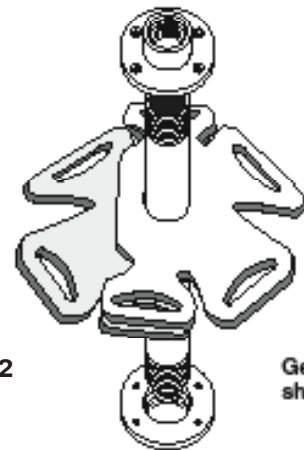

Figure 2
3. Where applicable, overlap center pole plates and install the steel pipe and flange assembly. This holds the center pole plates together. Make sure to place the grommet side ON TOP of the rope side. See Figure 2.